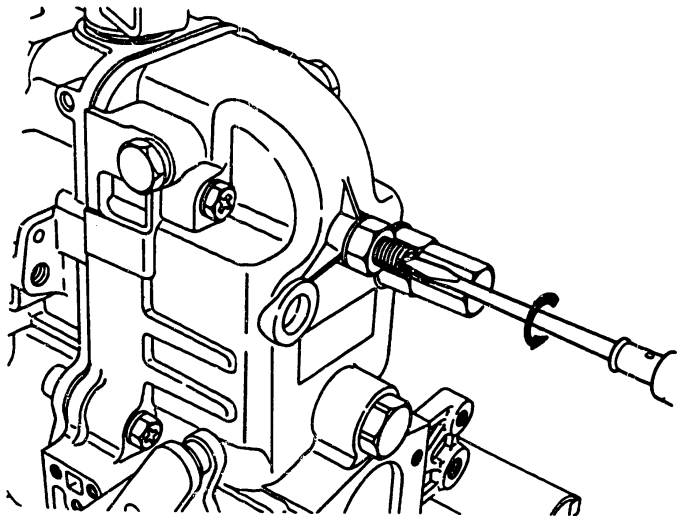

Fig. 21 Loosening speed adjusting screw
8. Remove the cap nut (46), and loosen the lock nut (45). Then loosen the speed adjusting screw (44), to release the governor spring. (Fig. 21)